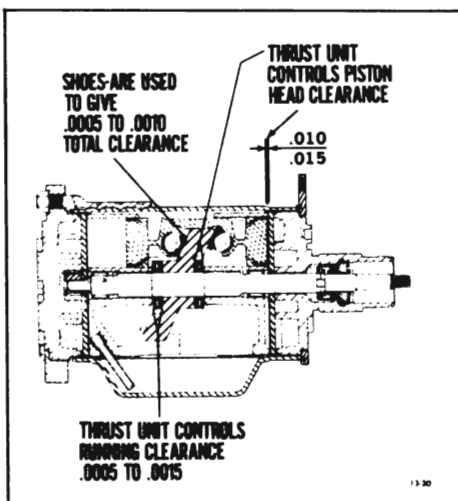

Figure 13-31 Compressor Needle Thrust Bearings and Races
5. Needle Thrust Bearing and Races - Two needle thrust bearings, each "sandwiched" between two races are located on either side of the swash plate hub. The front needle thrust bearing and races provide 0.010" to 0.015" clearance between the top of the pistons and the rear side of the front suction valve reed disc (see Figure 13-31). The rear needle thrust bearings and races provide 0.0005" to 0.0015" clearance between the hub of the swash plate and the rear hub of the rear cylinder. Races of various thicknesses are provided for service replacement to achieve required clearances when rebuilding units.